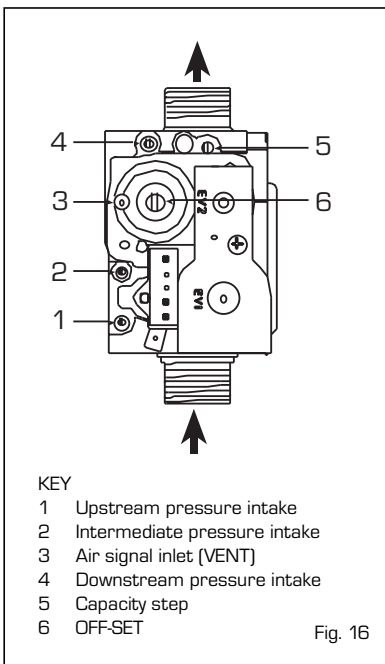

Fig. 16
4.1 GAS VALVE (fig. 16)
The boiler is supplied as standard with a gas valve, model SIT 848 SIGMA (Fig. 16).
3) Determine the CO₂ values at max power stated below, if required adjust using the capacity step (5 fig. 16):
5) Determine the CO₂ values at min power stated below, if required adjust using the OFF-SET adjustment screw (6 fig. 16):